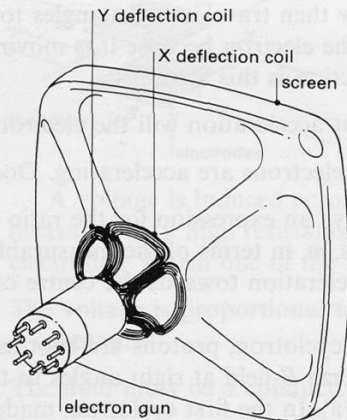

Figure H77
- 13(P)** Figure H77 shows a cathode-ray tube of the sort used in a television set. The coils around its neck are magnetic deflection coils, used to sweep the electron beam to and fro.